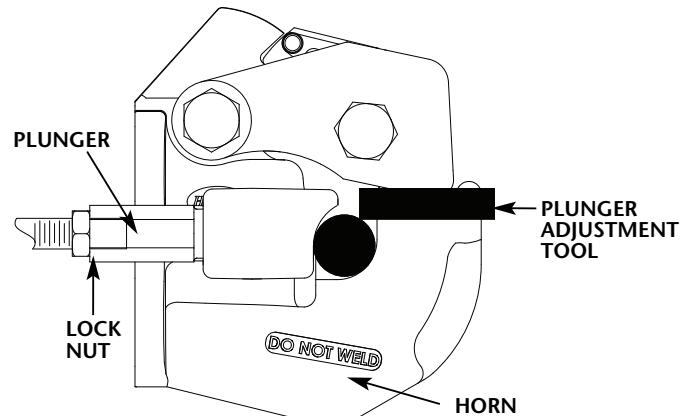

Figure 1
1. Place tool, TF-03147-10, over horn of pintle hook as shown in Figure 1, then close and lock latch.
3. Adjust air cylinder so plunger just contacts adjustment tool and the tool will not move when rotated or twisted by hand (see Figure 1).